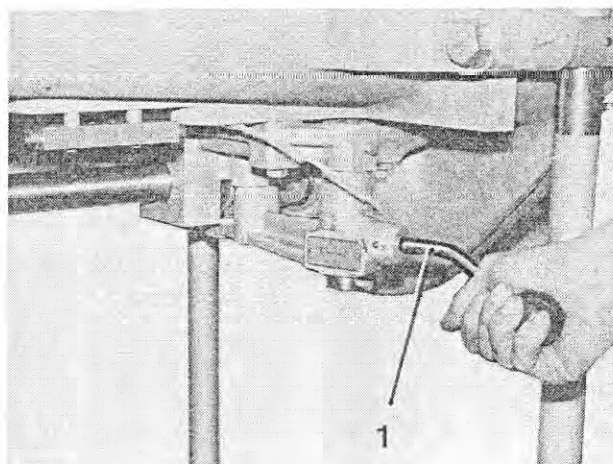

Fig. 115
12. When machines with a worm trough are used, engage worm drive using the lever (Figure 115/1).